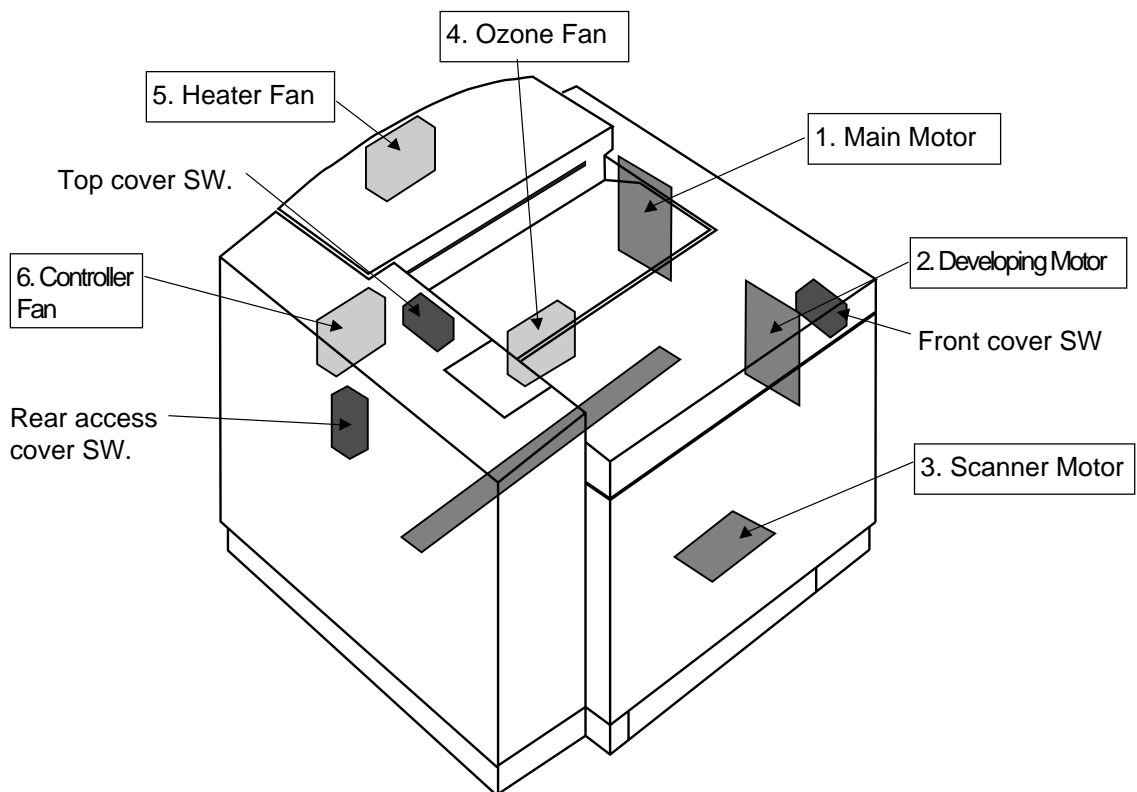

Fig.4-30
(2) Motors (Refer to Fig.4-30.)